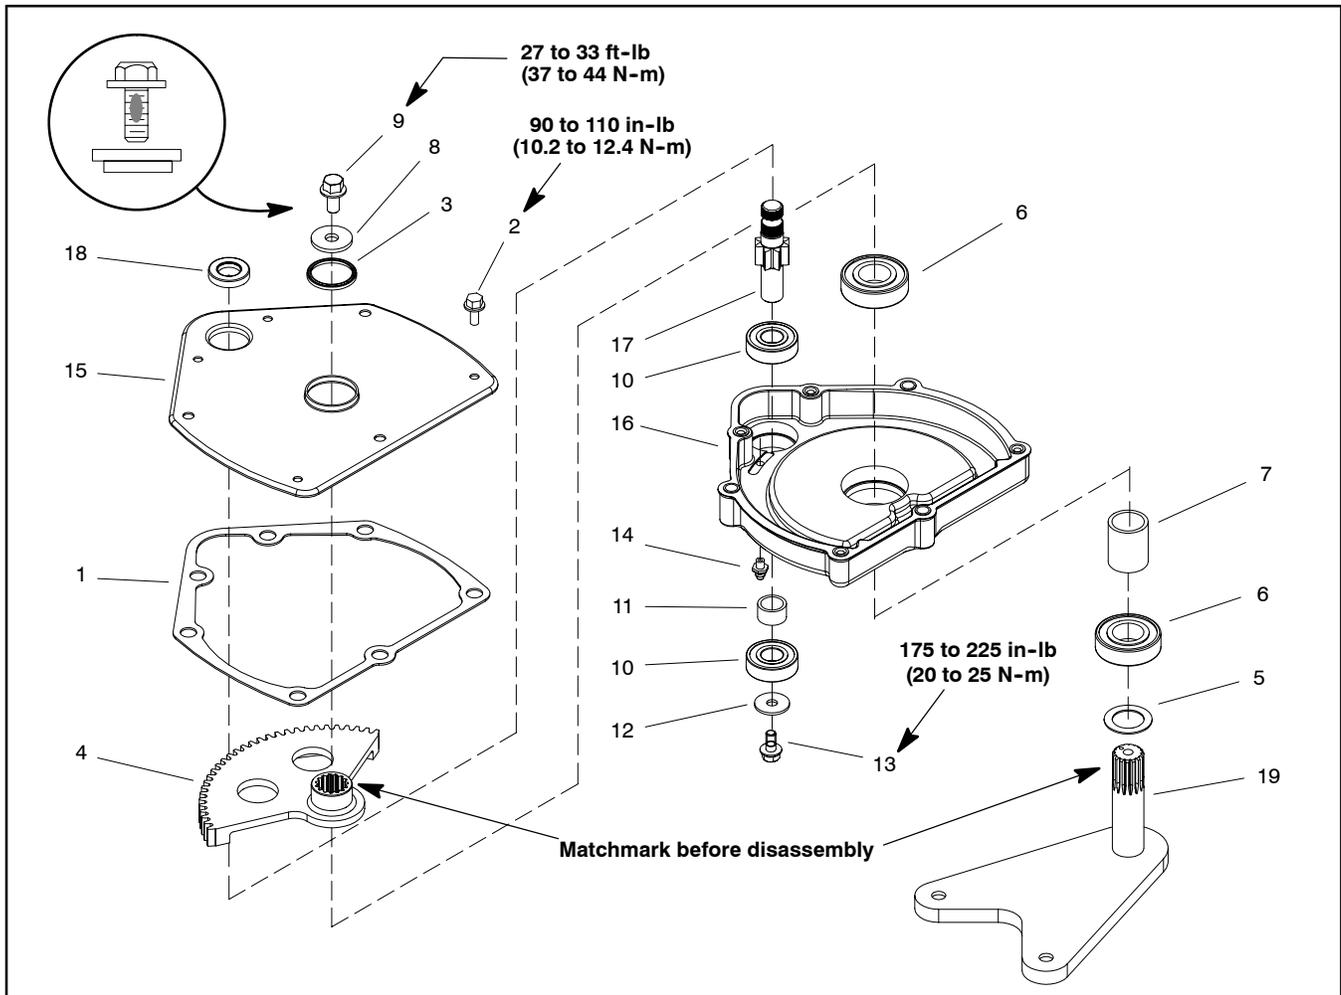

Figure 2
## Disassembly (Fig. 2)
## Assembly (Fig. 2)
3. Place flat washer (item 5) onto shaft of the Pitman arm (item 19). Insert shaft into steering housing.
4. Position sector gear (item 4) onto the spline of the Pitman arm shaft.
5. Insert pinion gear (item 17) into the small bearing in the steering housing.
7. Place gasket and steering housing cover onto the housing. Secure cover to housing with three (3) hex washer head screws (item 2). Torque screws from **90 to 110 in-lb (10.2 to 12.4 N-m)**.
**IMPORTANT:Flange head screws with patch lock (items 9 and 13) should be replaced whenever they are removed.**
8. Secure stepped washer and flange head screw with patch lock (item 9) to the Pitman arm (item 8). Make sure to position stepped washer as shown in Figure 2. Torque screw from **27 to 33 ft-lb (37 to 44 N-m)**.
9. Secure flat washer (item 12) and flange head screw with patch lock (item 13) to the pinion gear shaft. Torque screw from **175 to 225 in-lb (20 to 25 N-m)**.